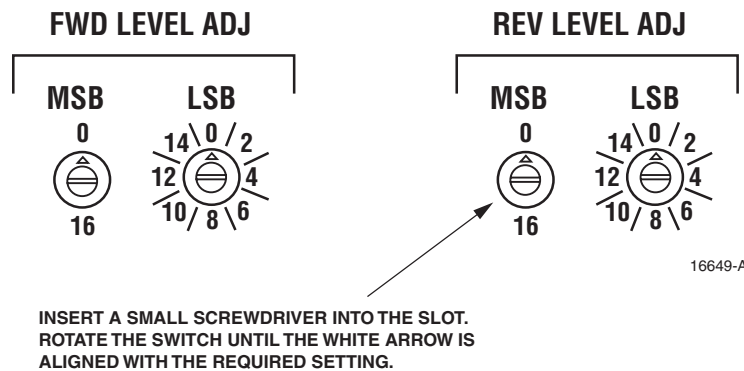

Figure 14. Rotary Switch Adjustment
5. Using a small screwdriver, adjust the FWD LEVEL ADJ rotary switches to insert the gain required to provide a **-20 dBm** signal at the DHU. The RIU provides a forward path signal adjustment range of from +9 dB to +40 dB. Refer to Figure 14 for a description of how the rotary switches work and to Table 4 for the adjustment settings.
5. Using a small screwdriver, adjust the REV LEVEL ADJ rotary switches to insert the gain required as determined in step 4. Refer to Figure 14 for a description of how the rotary switches work and to Table 4 for the adjustment settings.